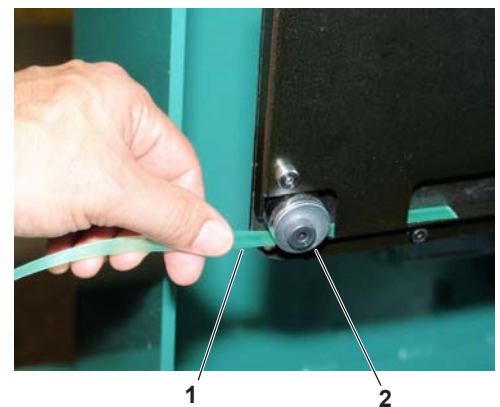

Figure 3-4: Insert Strap
1. Pull the pinch lever (**Figure 3-4: 1**) upward to open the tension drive wheels.